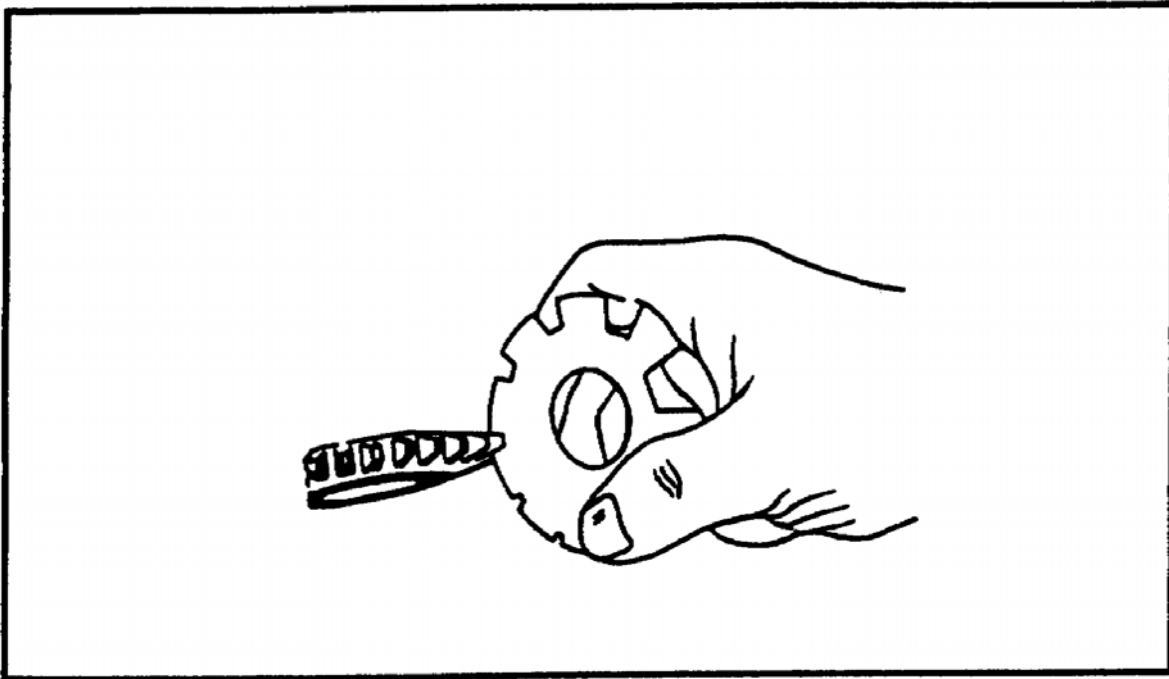

FIGURE 211. USING THREAD CUTTING TOOL GAGES.
n. *Use of Thread Cutting Tool Gages.* To check the correct form of a thread cutting tool, place the proper gage over the tool, as shown in figure 211. The Acme standard gage is used here. The tool must mesh properly with no light showing between the tool and the gage. Use  $29^\circ$  angle as a guide when grinding the cutting tool. After the tool fits the angle, the point should be ground off to fit the proper place on the gage for the particular number of threads per inch to be cut.